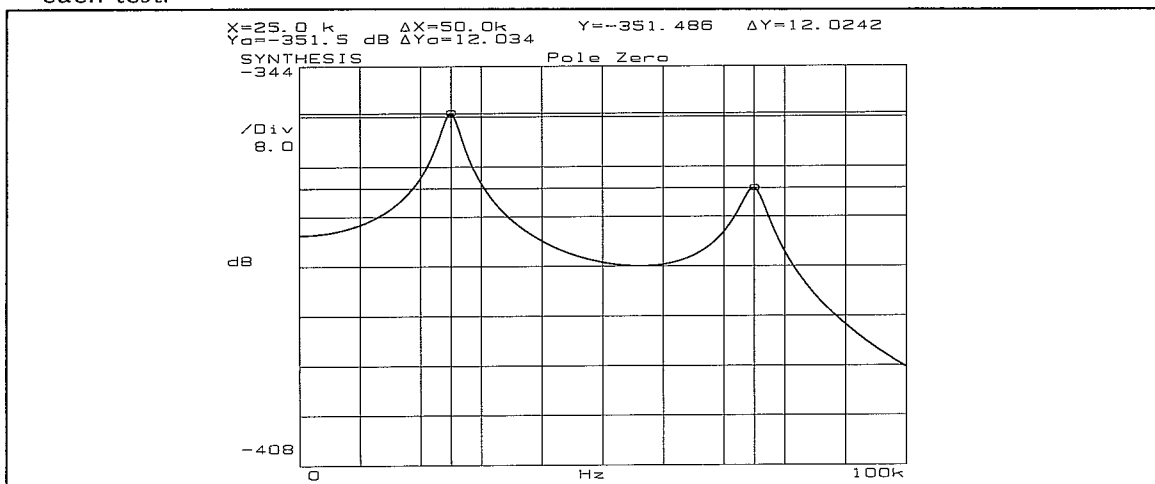

Figure 2-10 Marker Positions
3. Refer to figure 2-10 for the position of the X and Y marker readings.